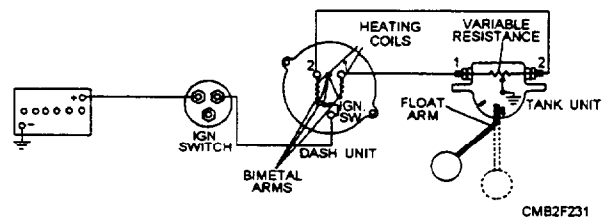

Figure 2-79.—Thermostatic fuel gauge, differential type.
- The THERMOSTATIC FUEL GAUGE, DIFFERENTIAL TYPE (fig. 2-79), is similar to the other type of thermostatic fuel gauges, except that it uses two electrically heated bimetallic strips that share equally in operating and supporting the gauge pointer. The pointer position is obtained by dividing the available voltage between the two strips (differential). The tank unit is a rheostat type similar to that already described; however, it contains a wire-wound resistor that is connected between external terminals of one of the gauges of the bimetallic strip. The float arm moves a grounded brush that raises resistance progressively to one terminal, while lowering resistance to the other. This action causes the voltage division and resulting heat differential to the gauge strips formulating the gauge reading.